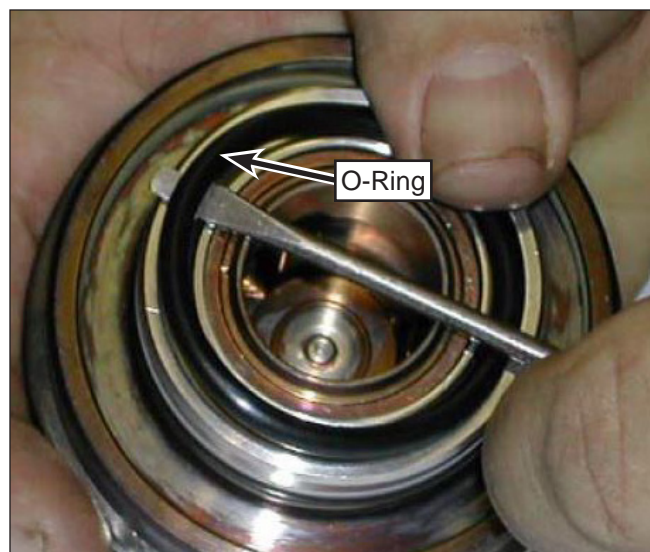

Figure 72: O-Ring Removal.
1. Remove the O-ring at each end of the valve (Figure 72). Discard the O-rings.